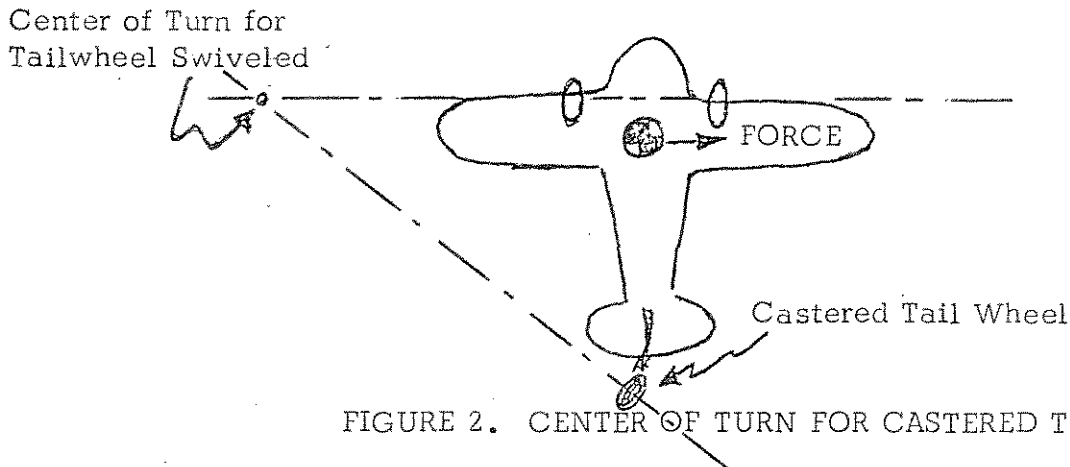

FIGURE 2. CENTER OF TURN FOR CASTERED TAILWHEEL
- (5) Note also that this analysis assumed a locked (non-swivel) tailwheel).
- (6) If the tailwheel has some degree of castering the situation shown in Figure 2 will result. Since the center of gravity (C.G.) of the airplane is behind the main gear any side force will cause a castered tailwheel to swivel. Unfortunately the direction of turn is in such a direction as to create a centrifugal force which reinforces the original force. If uncorrected, a ground loop will occur. With enough initial momentum (and assuming no wing would drag on the ground) the tailwheel would swivel 180° and the aircraft would end up going backwards in a stable condition. (Sort of like a "nose wheel" airplane from then on.)
- (7) As shown in Figure 2, a force to the right causes the castered tail wheel to turn as though the left rudder pedal had been pushed. A new center of turn to the left is established, which causes a centrifugal force to the right. This is the same direction as the original disturbing force (which could be caused by rudder, brake, or other).
- (8) This analysis can be extended in a similar manner to show that airplanes with swiveled tailwheels tend to ground loop if they touch down with a crab angle, while nose wheel airplanes which land with a crab angle tend to turn and stably align themselves with the direction of ground velocity before touch down.